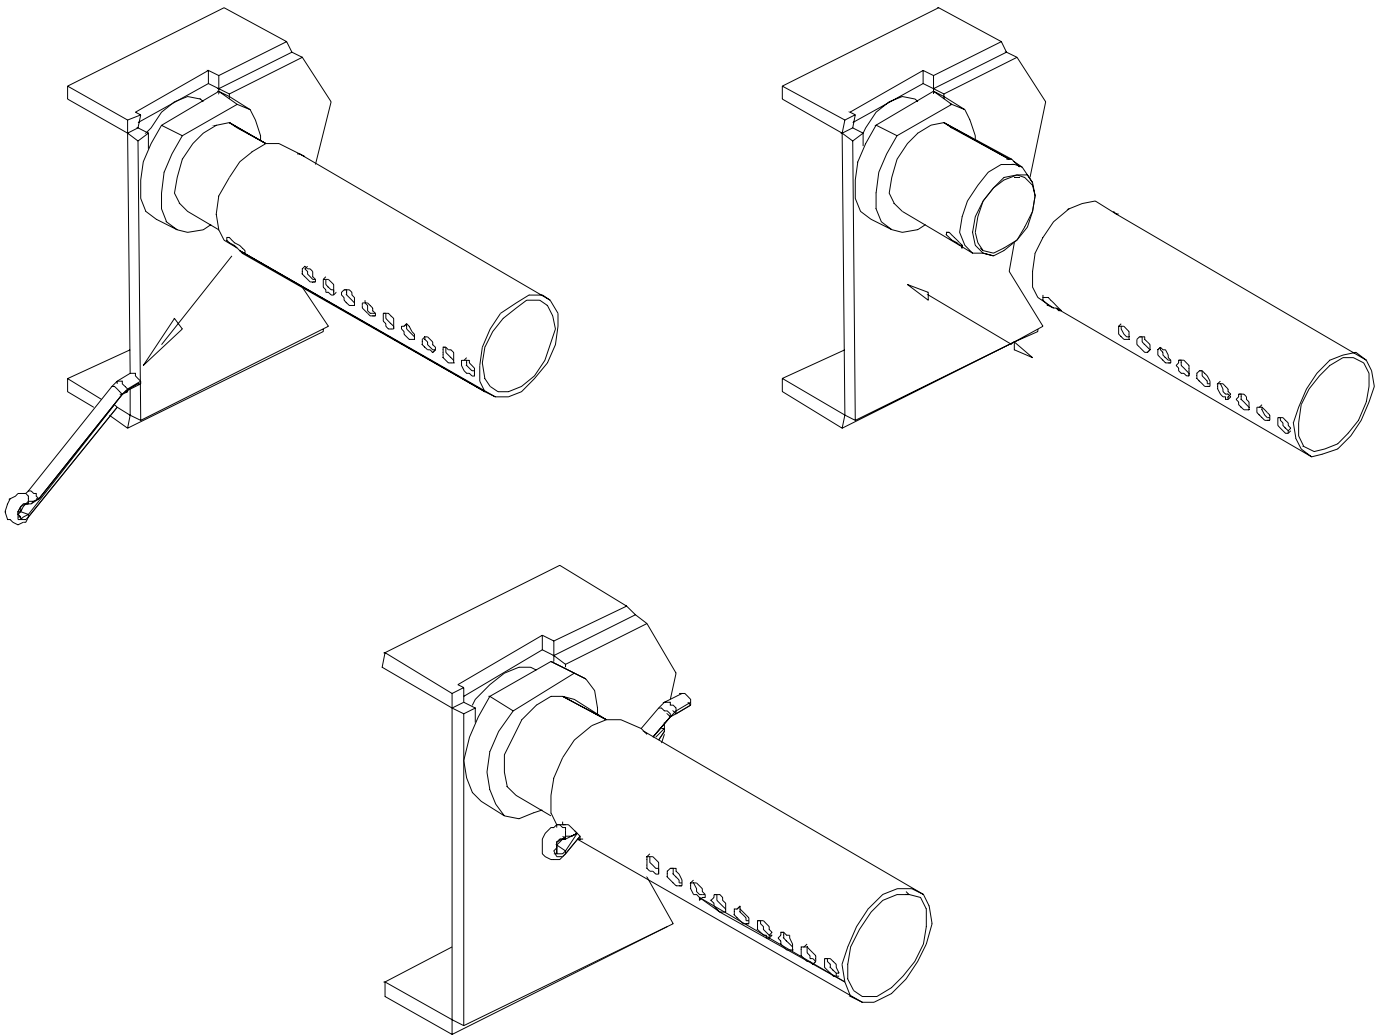

Figure 4.3 – Secondary Air Tube replacement
8. Install secondary air tube ensuring air holes face forward. Install cotter pin as per Figure 4.3.
(see Figure 4.3)